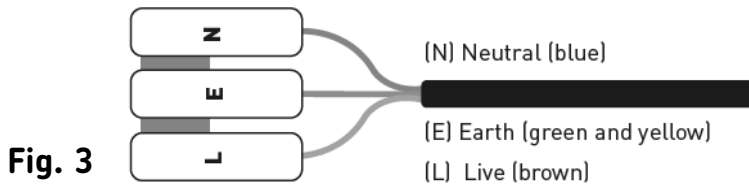

Fig. 3
- Feed the cable through the compression gland on the rear of the access plate. Ensuring correct polarity is observed, carefully wire as shown in Fig. 3